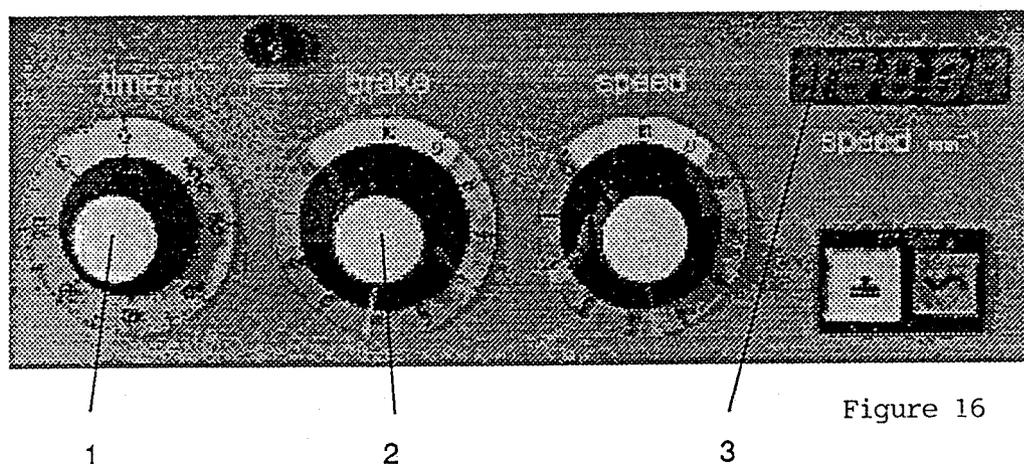

Figure 16
Turning the timer switch (1) clockwise, sets the operating time (max. 60 mins.) and starts the centrifuge. If the required operation time is 5 minutes or less, the timer should be switched over the 30 minute position and then back to the desired value. When the set time expires, the centrifuge switches off automatically. For continuous operation, switch the knob TIME (1) to the position HOLD, (see figure 16).
To reduce the risk of resuspending samples, during deceleration, it is possible to steplessly pre-select the brake intensity with the knob BRAKE (2), (see figure 16). In addition, please have a look at the acceleration and deceleration curves under point 8.1!